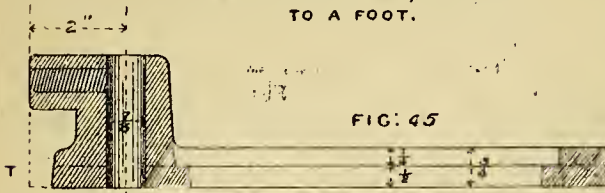

FIG. 45
Let us take the socket in hand first, and to obtain an idea of the necessary steps to be followed in making this, let us refer to the sketches. Fig. 45 is a longitudinal sectional elevation; Fig. 46, an end elevation looking from the left of Fig. 45; and Fig. 47 is a plan of the socket as it should appear when finished. Fig. 50 is a cross section through the foot at A B, showing the form of the slot which receives the neck and head of the holding-down bolt.
In making the pattern, commence on the foot, which is made up of two thicknesses of wood, shown by the ticked lines in Figs. 45 and 46. Fig. 49 gives a plan of the bottom thickness, which is half an inch, as shown in figures at Fig. 45. Fig. 48 is a plan of the upper layer, or thickness, which is a quarter of an inch thick. In the bottom one a slot is cut to receive and clear the neck of the holding-down bolt, and in the upper one, another slot is cut to accommodate the head of this bolt. The outer edges of these pieces forming the foot should be finished off to outline after they have been fastened together. In putting them together, divide the upper and largest slot equally around the lower one, then fasten with a few small brads or wood screws.
The boss, or provision for set screw, may be as shown in full, in Figs. 45 and 46, or it may be carried down, as shown in ticked lines. The latter would be the most simple pattern to make, but the former has a much neater appearance. If the first named is preferred and adopted, then the small boss, B, must only be pinned on, as shown in Fig. 51, so that the moulder, by withdrawing the wire or pin, A, may be enabled to draw B back and remove it, after the socket S has been drawn. A "core print" must also be affixed, as shown at P, Fig. 51. This "print" should be $\frac{7}{8}$ of an inch in diameter, at the base or larger end, and tapered to $\frac{3}{4}$ of an inch in diameter at the smaller end, the total height being $\frac{3}{4}$ of an inch.
- FIG. 45.—VERTICAL SECTION OF SOCKET.